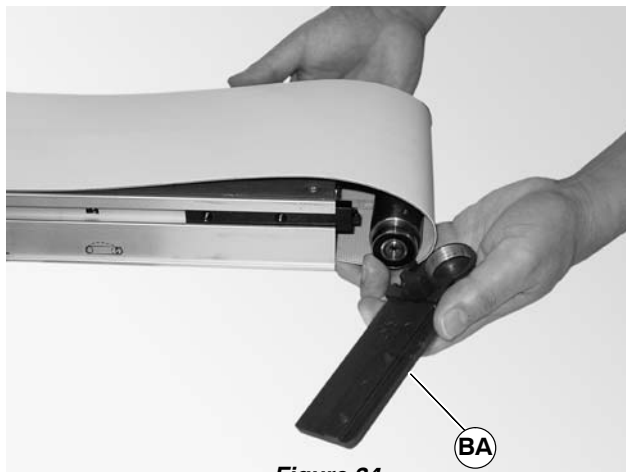

Figure 34
2. Remove the head plate (BA of Figure 34) from the conveyor frame.